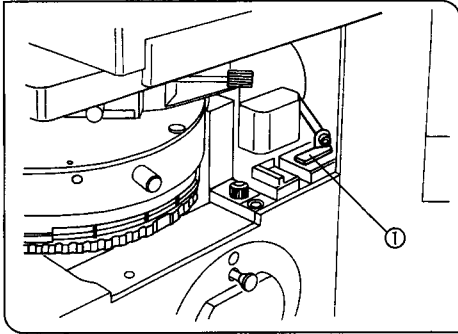

Fig. 19
## 2 Centering the Field Iris Diaphragm (Figs. 19, 20)
2. Turn the fluorescence vertical illuminator's field iris diaphragm lever ① counterclockwise to stop down the field iris diaphragm until the diaphragm image is inside the perimeter of the field of view. (Fig. 19)
3. While turning the field iris diaphragm lever ① clockwise to gradually open the field iris diaphragm, turn the two field iris diaphragm centering knobs ② on the fluorescence vertical illuminator to adjust so that the image of the diaphragm is centered in the field of view. (This is the state where the field iris diaphragm image is inscribed in the field of view.) (Figs. 19, 20)